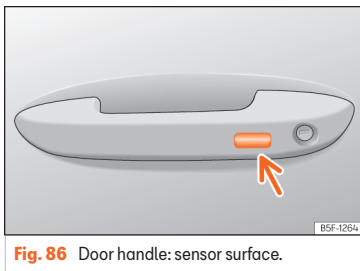

Fig. 86 Door handle: sensor surface.
- **OR:** using the Keyless Access system (only locking): Press and hold the locking sensor surface >>> Fig. 86 (arrow) on the door handle for several seconds to close the windows and the sunroof. If you release the sensor surface, the closing movement stops.
Press and hold the locking sensor surface **»» Fig. 86** (arrow) on the door handle to close the sunroof. If you release the sensor surface, the closing movement stops.